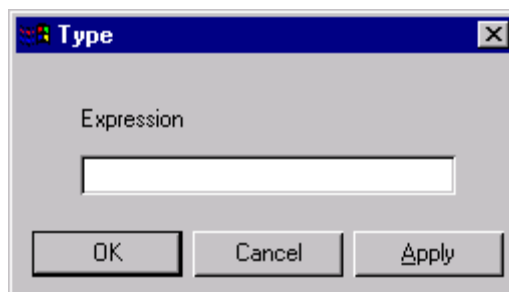

Figure 8-6. Displaying the Type of a C Variable or Expression
1. From the **Display** menu choose **Type**. The dialog box in Figure 8-6. appears